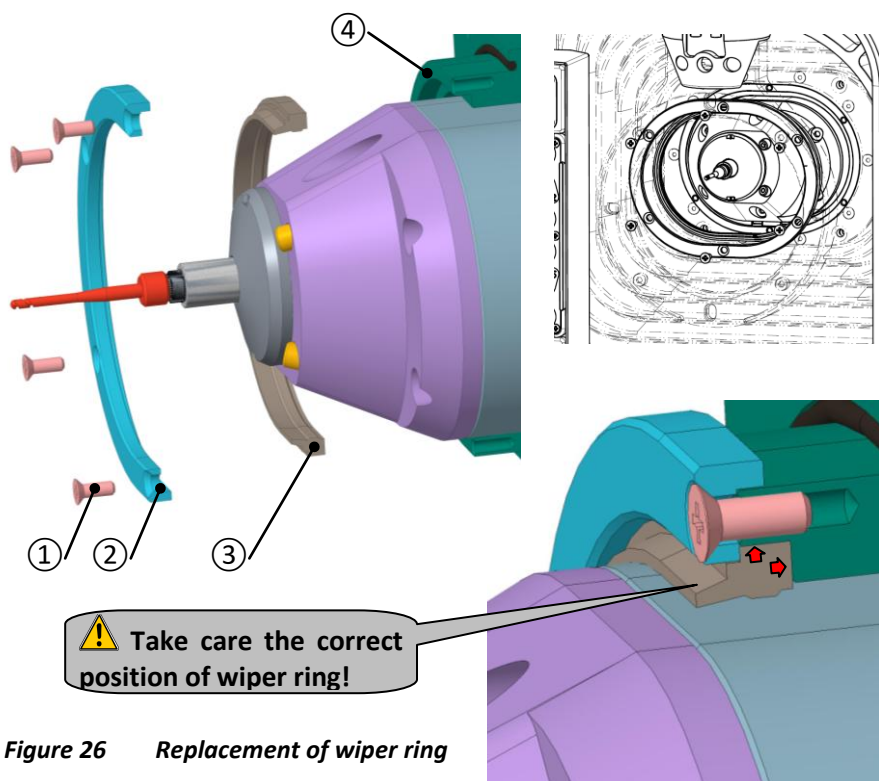

Figure 26 Replacement of wiper ring
3. Unscrew the screws [Figure 26 / 1] of fixing frame [Figure 26 / 2] of wiper.
4. Move the Z axis out a little with up arrow button  [Figure 16 / 6] (see section 5.2.7.) to pull-out the wiper ring [Figure 26 / 3] from the internal frame [Figure 26 / 4].